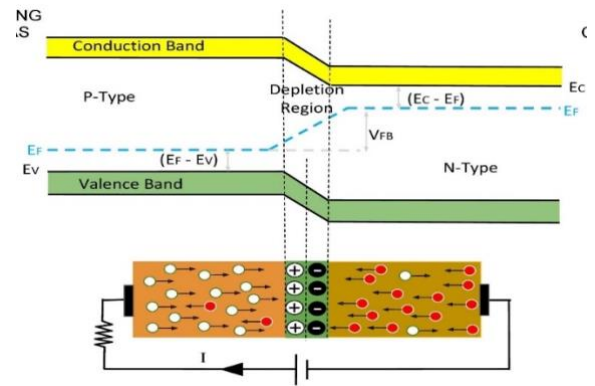

Figure 11e: Forward bias
Forward bias PN junction, *Figure 11e*:
2. Electrons from the battery pour into the N-side raising the fermi level there wherein the electrons are drained from the P-side dropping the fermi level on this side. This is indicated by the blue dotted line depicting fermi level for forward bias PN junction in *Figure 11e*.